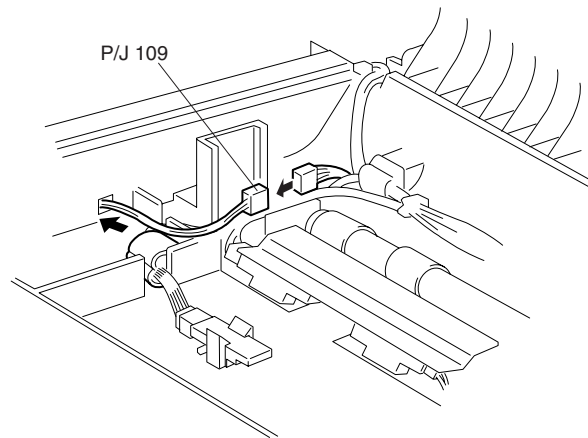

Figure 1
2. Turn the Main Paper Handling Assembly over and disconnect P/J 109 from the Registration Brake Clutch (Figure 1).
5. Reconnect P/J 109 to the Registration Brake Clutch (Figure 1).